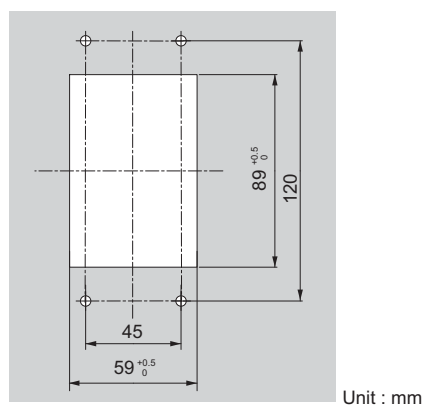

Figure 2.12 Panel Cut-Out Dimensions (Internal/Flush-Mount Installation)
1. Cut an opening in the enclosure panel for the digital operator as shown in *Figure 2.12*.